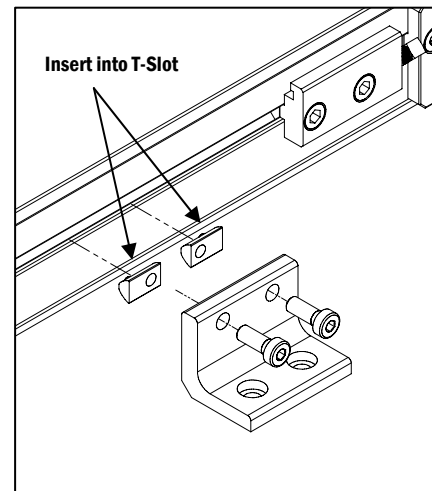

Figure 1
① Flush Side Mounts
b. Insert the Drop In Nuts into the T-Slot in the conveyor frame. Line up the Flush Mount to the Drop In Nuts, insert the M6 Socket head Cap Screws through the mount and fasten to the frame (**Figure 1**).